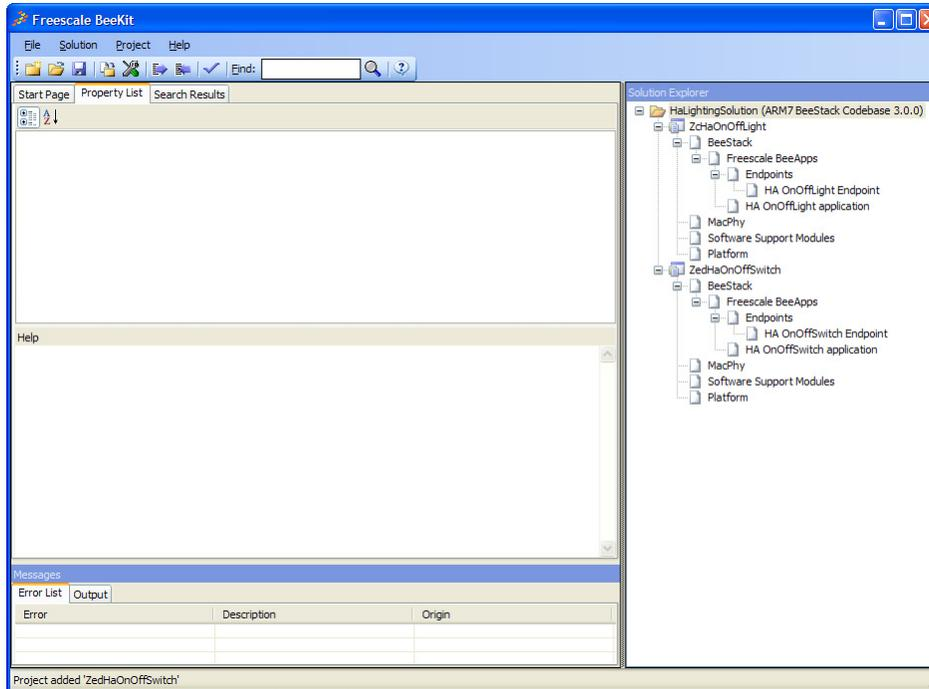

Figure 3-13. BeeKit Main Window
5. After selecting Finish for the switch application, the BeeKit main window appears as shown in Figure 3-13.